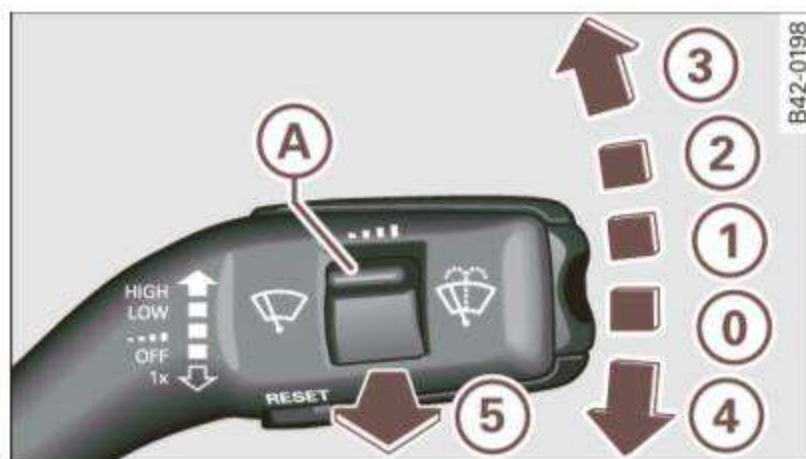

Fig. 48 Wiper lever
The windshield wiper lever ⇒ fig. 48 has the following positions:
- Move the wiper lever to position **0** ⇒ page 55, fig. 48.
- Switch the ignition on and move the wiper lever from position **0** to **4** ⇒ page 55, fig. 48. The wiper arms will move back to the park position.
- Switch the ignition on and move the wiper lever down briefly ⇒ *page 55, fig. 48*. The wiper will move back to the park position.